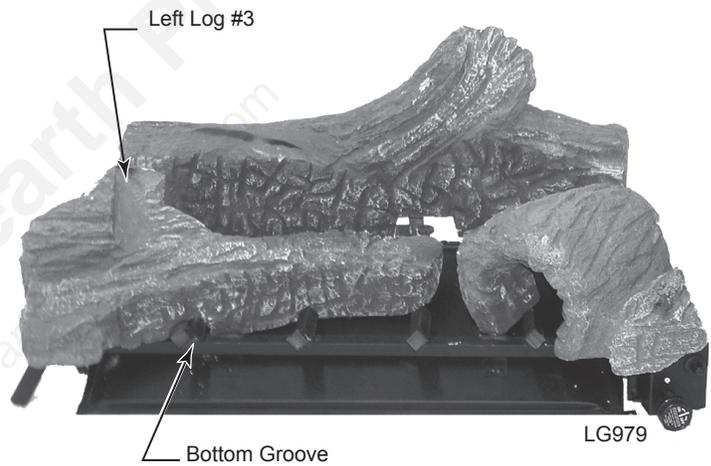

Figure 17
3. Install the left log (#3) with its bottom groove resting on the right side of the grate bar. Slide the log back until touching the rear log (#1). Visually check to verify the log is resting on the grate. *Figure 17*